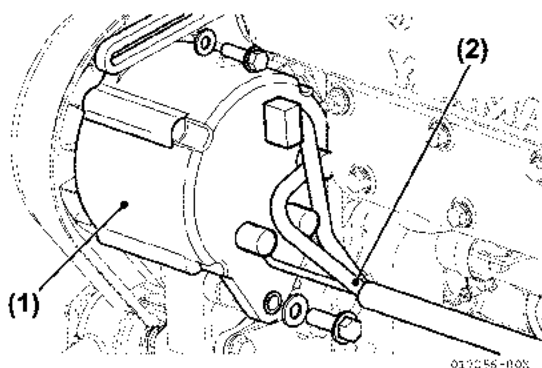

**Figure 5-184**
- Attach the feed pump wire harness to the oil cooler water pipe by nylon band (for 4JH5E only) (Figure 5-184).